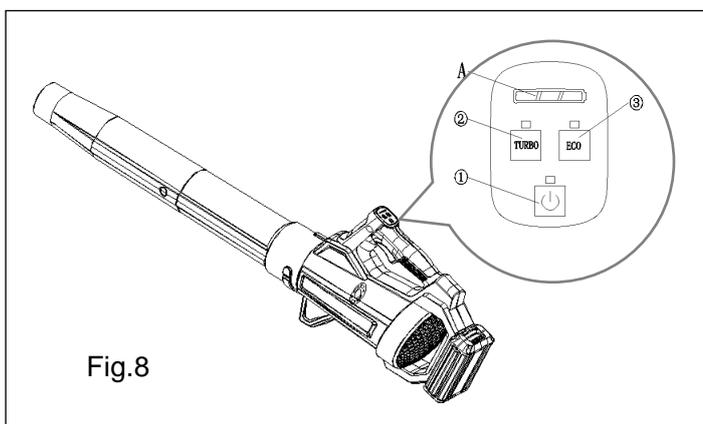

Fig.8
2. Start the blower. (Fig. 8)
Step 1: Firstly press the power button ① until the light of “ECO” is lit;
Step 3: To change to highspeed, press the “TURBO” button ②,
Indicator (A) on the panel also indicates the battery capacity. In use, all LEDs light up green to indicate high capacity of battery. LED goes out one after another to indicate the battery capacity is reducing gradually. (Fig. 8)